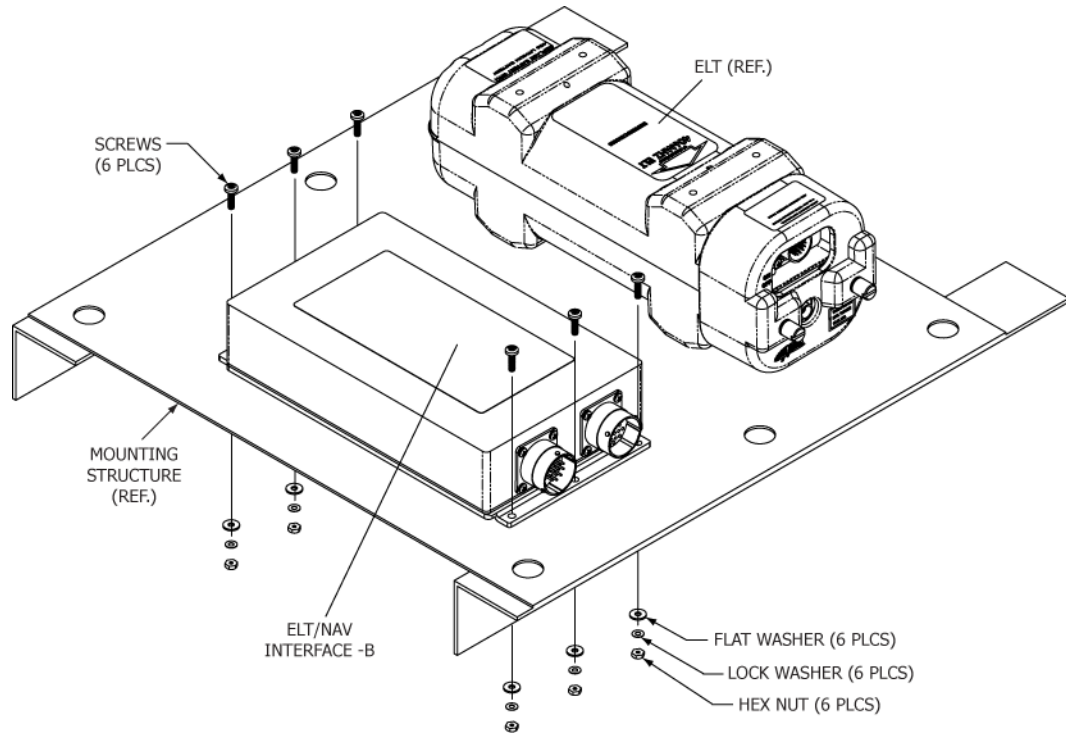

Figure 7 ELT/NAV Interface -B Mechanical Installation
- 6) Install the ELT/NAV Interface -B chassis with the 8-32 x 5/8" SS pan head Philips screws, flat washers, lock washers, and nuts provided in the installation kit (455-6500), as shown in Figure 7 ELT/NAV Interface -B Mechanical Installation.